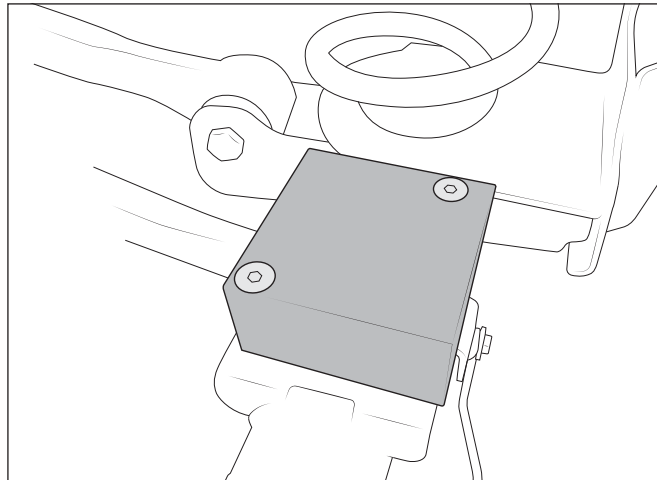

Figure 9
13. Drill the factory holes in the bump stop pads to $13/32$ ". Treat with rust preventative. Install AEV bumpstop spacers on the axle using the supplied M10 flat head, countersunk bolts and flange nuts (fig. 9). Tighten bolts until slight deformation around the holes in the spacer occurs, do not tighten excessively or splitting could occur. NOTE: The longer side of the spacer should be toward the rear of the vehicle